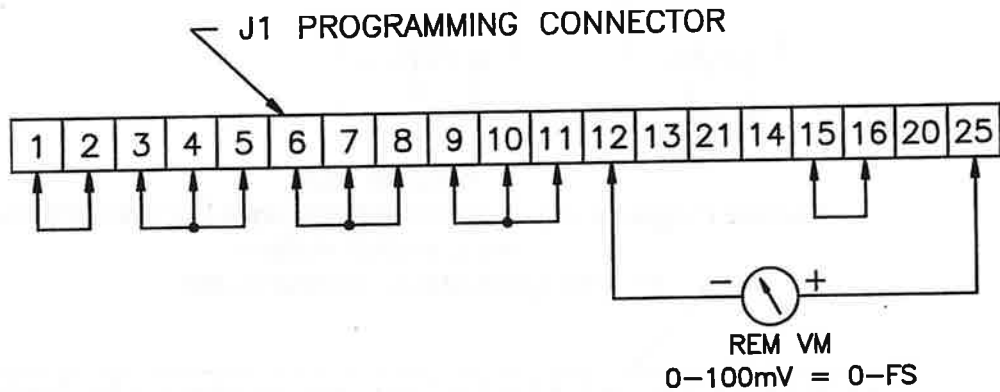

FIGURE 3.19: Remote Across Shunts
- A) To measure load current, use a remote millivolt meter (100 mV full scale sensitivity), calibrated in amperes. Connect the meter across J1-12 (negative) and J1-13 (positive). The power supply generates 100 mV across J1 pins 12 and 25 at full rated output current. See Figure 3.19.
- B) Connect 0-5 Vdc meter from J1-20(+) to J1-8 (-V). A full rate current, will generate 5 Vdc. See Figure 3.19.